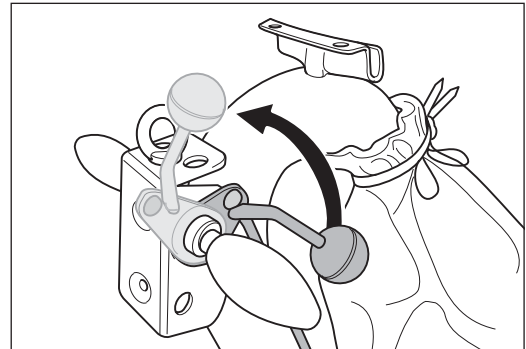

Fig. 73 Lift the sanding drum off the floor by turning the lowering lever at the handle upwards
During the test run, the sanding drum must be raised off the floor (Fig. 73)!
- 1 **Lift the sanding drum off the floor by turning the lowering lever at the handle upwards (Fig. 73)!**
- 1 Lift the sanding drum off the floor by turning the lowering lever at the handle upwards (Fig. 73).